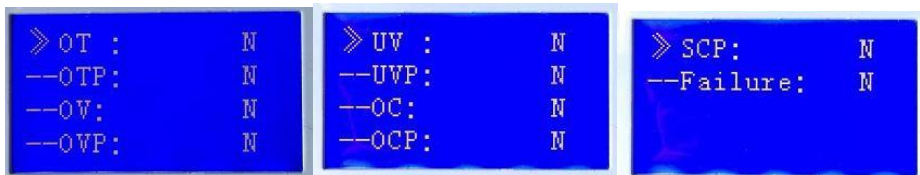

Figure 8
4.2.3 BMS Status means BMS settings change record. Figure 8 shows.